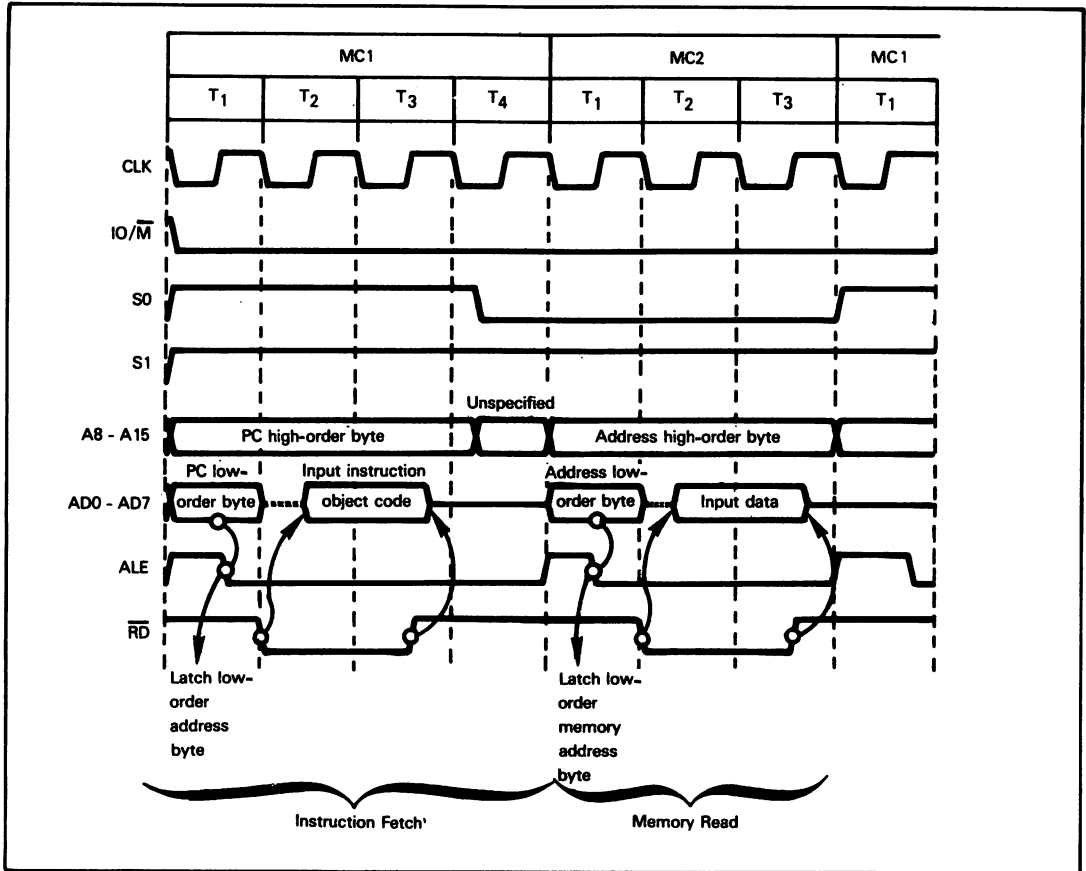
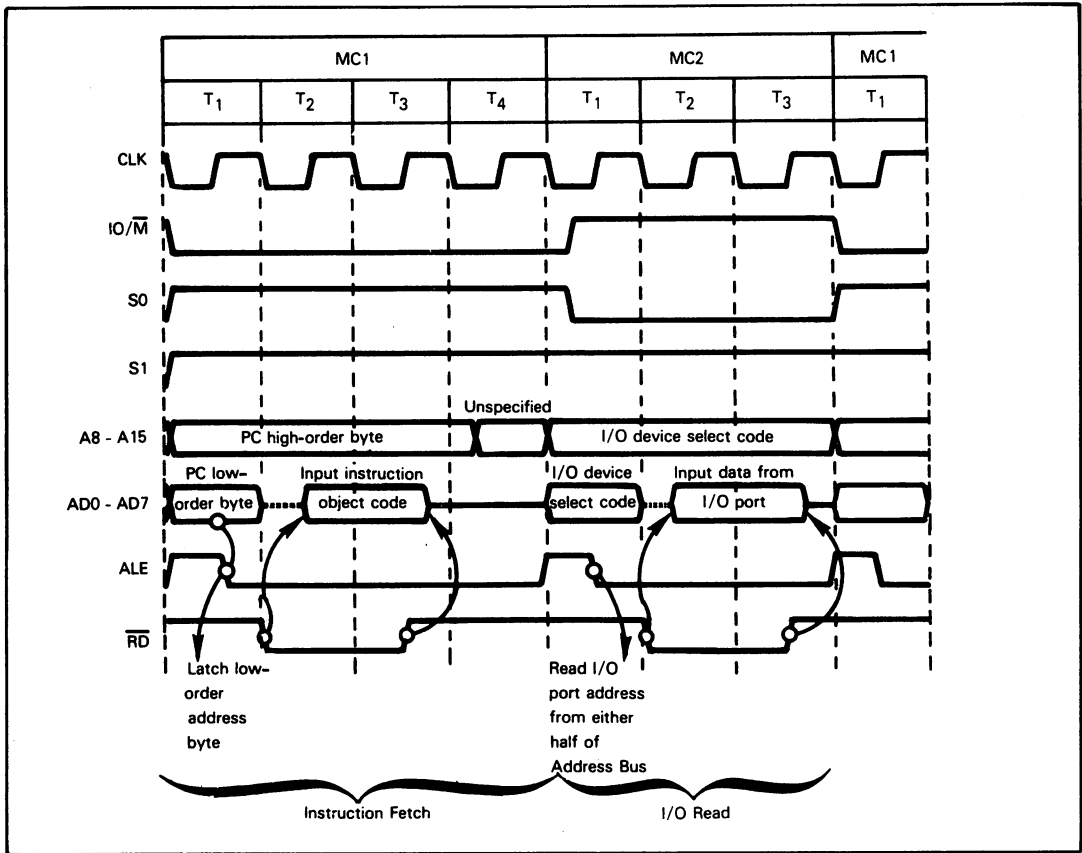

Figure 5-6. A Memory Read Machine Cycle Following an Instruction Fetch
Figure 5-7. An I/O Read Machine Cycle Following an Instruction Fetch
Let us now consider a memory read operation; timing is illustrated in Figure 5-6. So far as external logic is concerned, the only difference between a memory read and an instruction fetch is the S0 and S1 signal levels; they are both high for an instruction fetch, but S0 is low during a memory read. Also, the instruction fetch has four or six clock periods, while the memory read has three; but the extra instruction fetch clock periods occur after the memory access is completed. Therefore, so far as external logic is concerned, the extra clock periods of the instruction fetch machine cycle are irrelevant.
**Figure 5-7 illustrates I/O read timing.** Only the  $IO/\overline{M}$  signal level in Figure 5-7 differs from Figure 5-6.